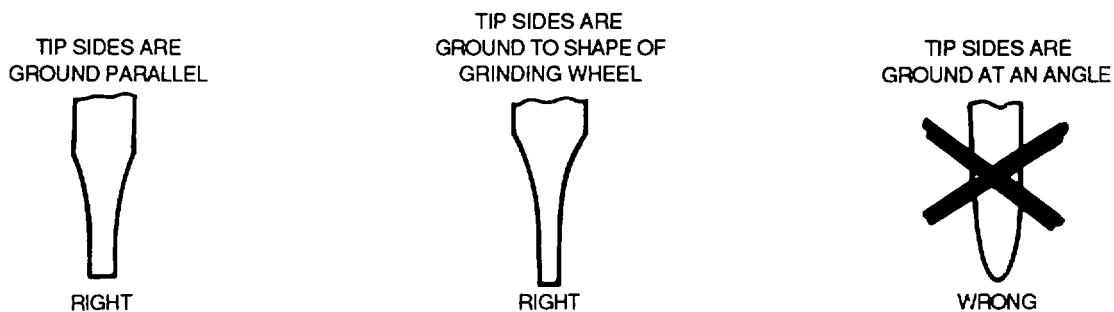

Figure 4-19. Screwdriver Tip Grinding
(1) *Common screwdrivers*. When grinding common screwdrivers, the tip should be squared and the sides parallel, as shown in figure 4-19.